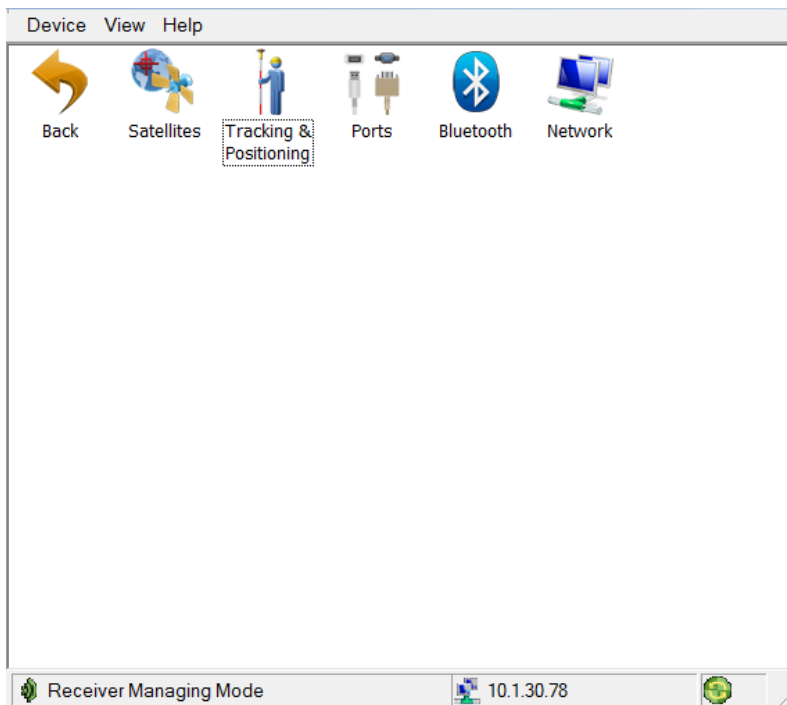

Figure 34: TRU – Receiver Settings
1. In TRU, click **Device ▶ Application Mode ▶ Receiver Managing ▶ Receiver Settings**. The **Receiver Settings** screen appears (Figure 34).